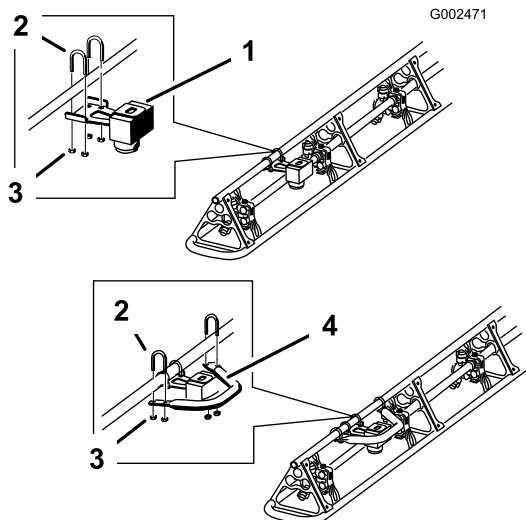

Figure 2
1. Lightly secure the right ultrasonic sensor to the right boom upper support pipe; halfway between the 3rd and 4th nozzle as shown in Figure 2, using 2 U-bolts, 4 washers (5/16 inch), and 4 locknuts (1/4 inch). Do not fully tighten at this time to allow for later adjustment.
3. Install the protection tube around the ultrasonic sensor with the angled side facing inward, toward the vehicle. Lightly secure the protection tube to the boom (Figure 2), using 2 U-bolts, 4 washers (5/16 inch), and 4 locknuts (1/4 inch). Do not fully tighten at this time to allow for later adjustment.